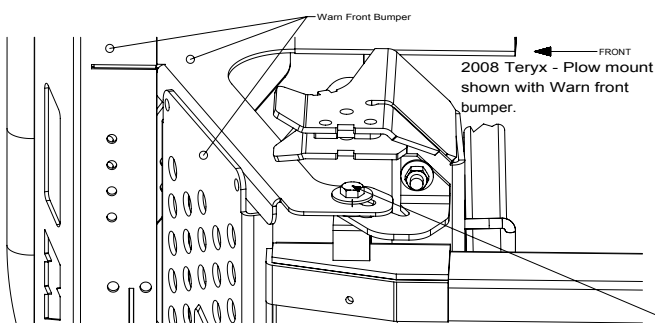

Figure 10C
21. Install 10mm bolts, washers and spacers, supplied with Warn front bumper kit, through the front bumper and lower plow mount brackets, and into the frame. See figure 10C and 10D.